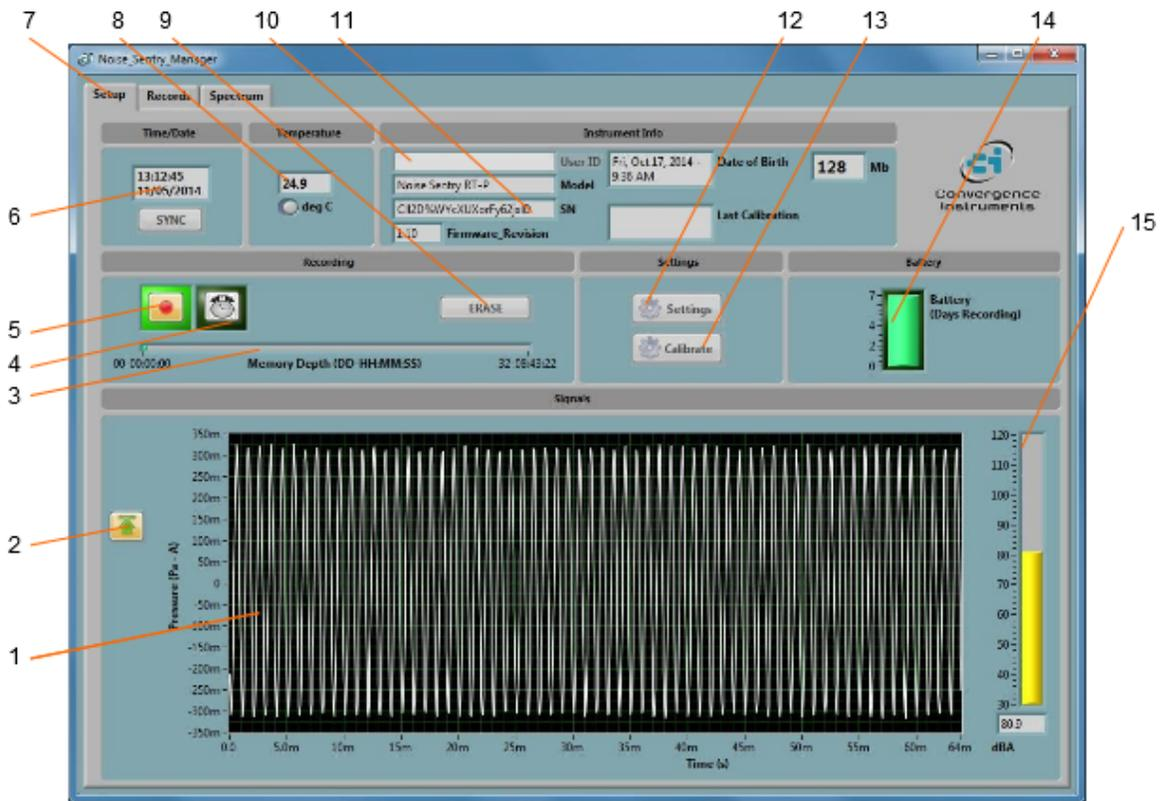

Figure 2 Setup Tab
2. Go into *Start\All Programs\Noise_Sentry_RTP_Manager* and run *Noise_Sentry_RTP_Manager.exe*. The front-panel described in Figure 2 appears, and the application tries to connect to the instrument. If it fails to find the instrument it indicates *No Device Found*. If this is the case see section Troubleshooting
- Check to make sure that the instrument time is correct. If that is not the case press the Sync button (Figure 2 (6)) in order to automatically set the instrument time to the PC time.
4. The front-panel described in Figure 2 appears, and the application tries to connect to the instrument. If it fails to find the instrument it indicates *No Device Found*. If this is the case see section Troubleshooting
- **The Setup Tab:** Is used to setup the instrument and monitor the real-time signal and level (see Figure 2).
The setup tab is seen in Figure 2. It is divided into seven fields.